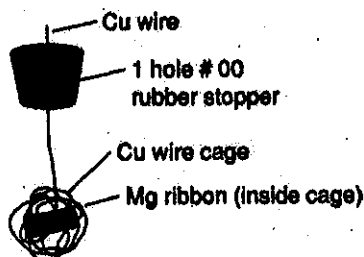

Figure 1
2. Obtain a short (0.80-1.00 cm) piece of magnesium ribbon, then measure and record its length to the nearest 0.01 cm. Use a 10-cm piece of copper wire to make a cage for your magnesium, by folding the magnesium over the wire then rolling the wire around the magnesium. Fit the wire cage into a 1-hole #00 rubber stopper. The cage should be about 2-3 cm from the small end of the stopper to hold the magnesium in place. See Figure 1.
3. Carefully pour about 3 mL of 3 M HCl(aq) into a 10-mL graduated cylinder. Using a wash bottle or beaker, carefully add distilled or deionized water to the graduated cylinder until it is completely full. Try to direct the water down the side of the graduated cylinder to prevent mixing of the water and the acid. Insert the stopper assembly (see Fig. 1, above) into the top of the graduated cylinder. Water should escape through the hole in the stopper; if it does not, remove the stopper and carefully add more water, then replace the stopper assembly. This will keep air from being trapped in the graduated cylinder.